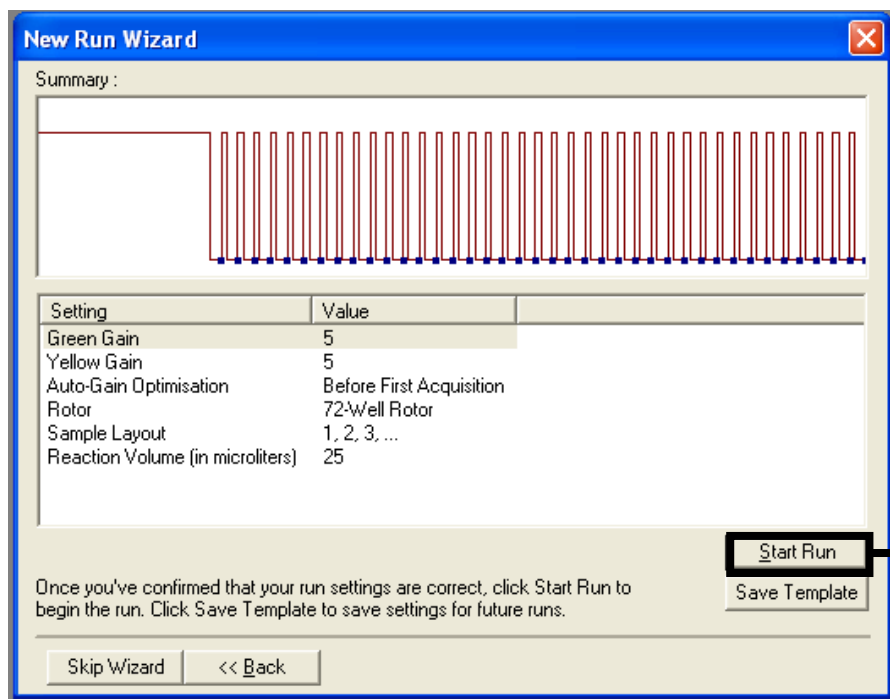

Figure 36. The “New Run Wizard” dialog box and summary screen (1 = “Start Run” button).
5. Check the summary and click “Start Run” to save the run file and start the run (Figure 36).